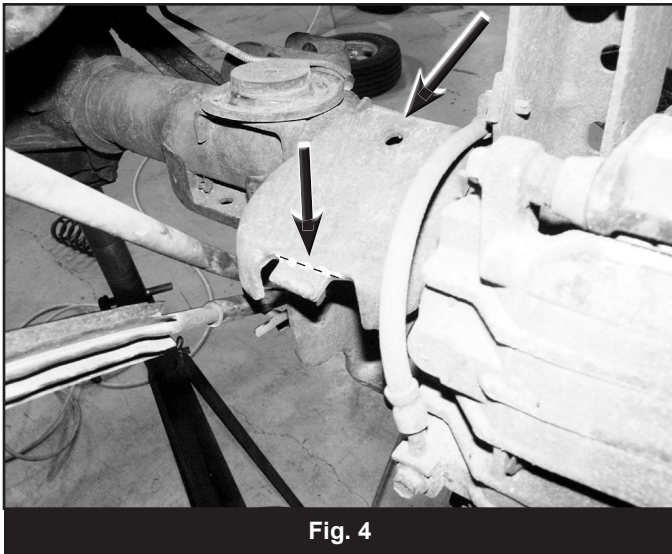
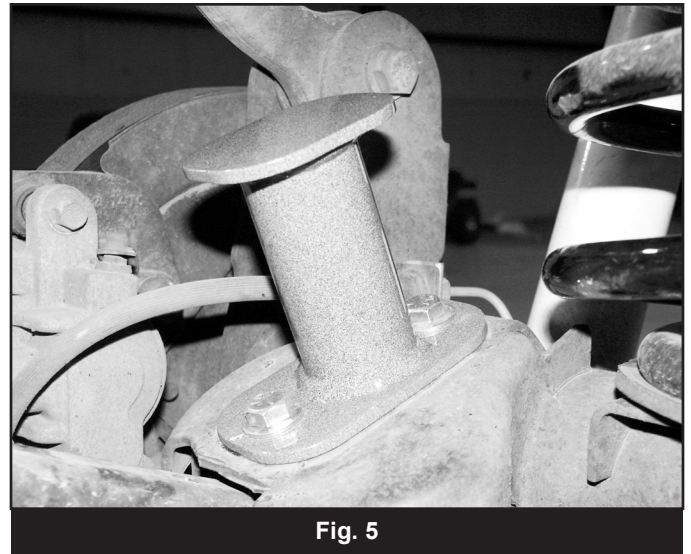

Fig. 4
Fig. 5
14. Mark and cut the small tab protruding out on the top front end of the lower control arm mounts so that a single straight edge is left (Fig 4).
15. Loosely mount the provided bump stop brackets on the top of the lower control arm axle mount using the existing hole (Fig. 4) and 7/16" hardware from bolt pack #551. The longer end of the mounting plate will go to the front of the vehicle (Fig 5).